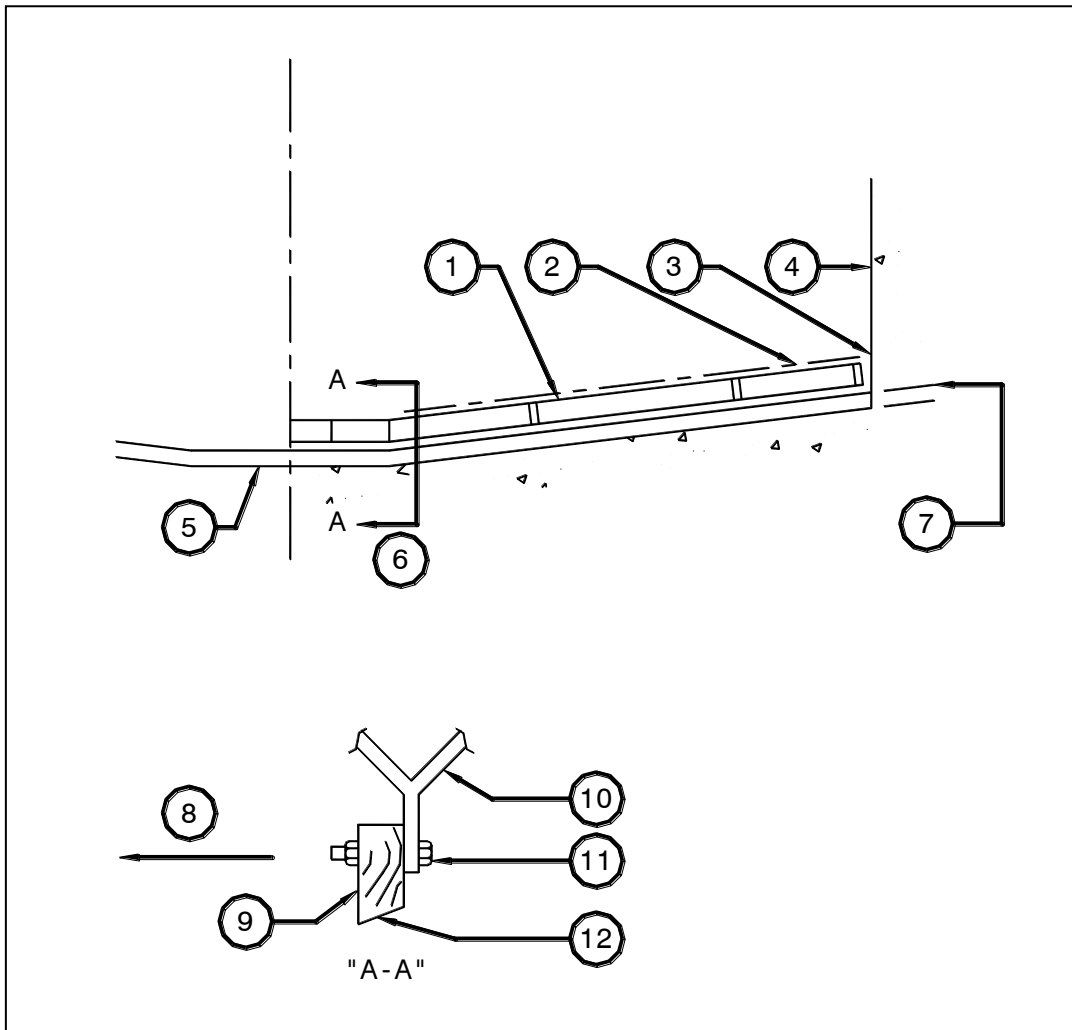

Figure 2.21b – Duct Blades
- a. Cut off the lower edges of the template boards at an angle as shown in Figure 2.21b.
- b. Bolt 2 x 4 template boards to the sludge duct blades. The bottom of the boards must just touch and run parallel with the reference line. At no point should the grout thickness be less than 1" to avoid cracking. Refer to Figure 2.21b.